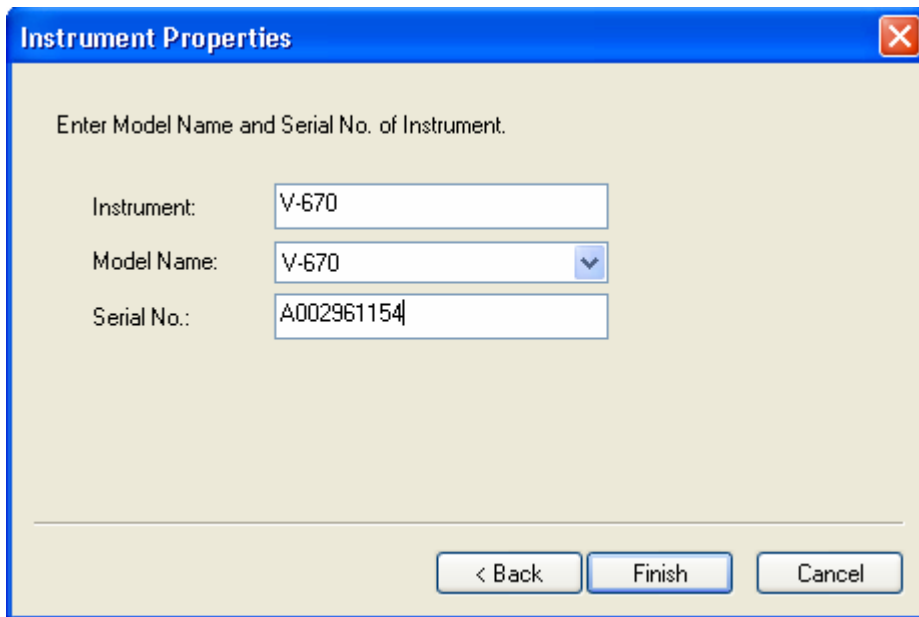

Figure 2.4 [Instrument Properties] Window
- (2) Enter the instrument name, model name and serial no. and click the <Finish> button to register the instrument. Enter the desired instrument name and enter the model name and serial no. inscribed on the name plate on the left side panel of the spectrophotometer (see Fig. 2.4).